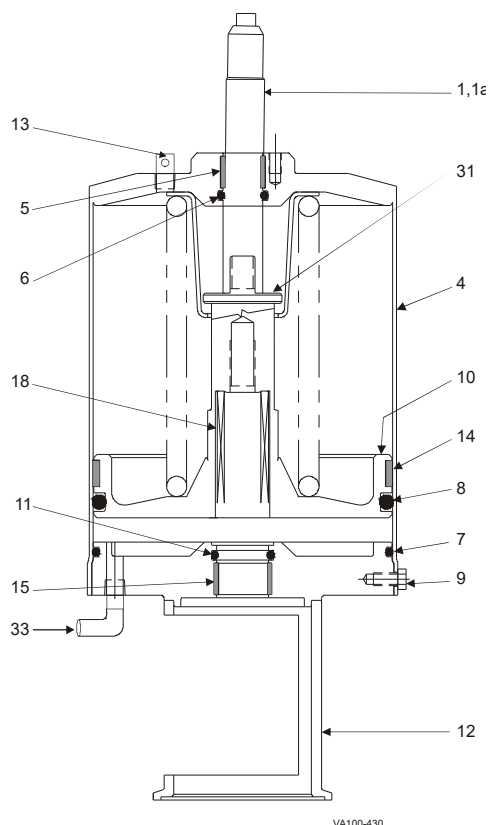
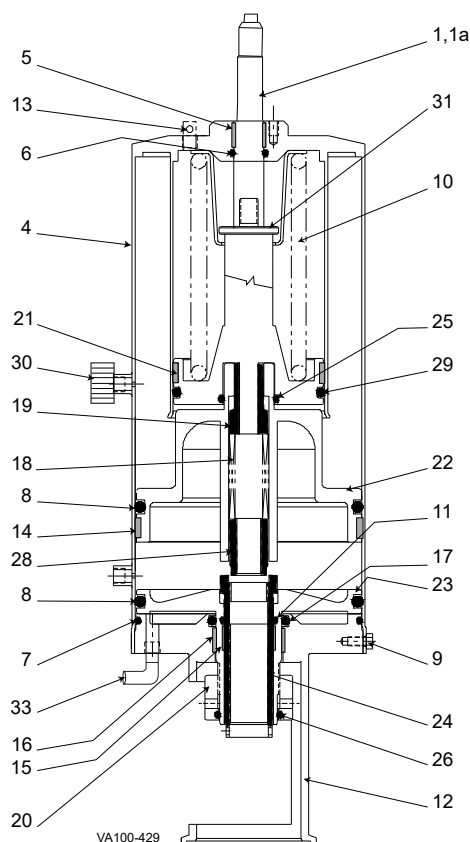

Figure 35 - W71/W73 Actuator Assembly (Non-Seat Lift Valve)
Figure 36 - W71/W73 Actuator Assembly (Seat Lift Valve)
1. For non-seat lifting valves, remove the cap screws (Figure 35, item 9) and remove the yoke (item 12) from the cylinder assembly. Set the yoke aside.
2. Pull the piston and spring assembly (Figure 35, item 10) from the cylinder assembly.
3. Inspect the four O-rings (Figure 35, items 6, 7, 8, and 11). Replace them if they are worn or damaged.
4. Inspect the three bearings (Figure 35, items 5, 14, and 15). If the bearing does not extend slightly above the edge of the metal surface, replace the bearing.
6. Assemble the stack components as shown in Figure 35. Install the yoke and cap screws.
1. For seat lifting valves, remove the cap screws (Figure 36, item 9) and remove the lower cartridge (yoke, item 12; adjusting nut, item 20; adjusting sleeve, item 24; and upper seat piston, item 23).
3. Remove the small spring (Figure 36, item 18). On W71/W73 valves, also remove the bushing (Figure 35, item 28).
4. Pull out the upper cartridge (main piston, item 22; lower seat spring and piston, item 10), by carefully threading in the lower stem to pull it. Do not bend the lower stem.
5. Inspect the nine O-rings (Figure 36, items 6, 7, 8, 11, 17, 25, 26, and 29) and replace them if they are worn or damaged.
6. Inspect the five bearings on W71/W73 (Figure 36, items 5, 14, 15, 16, and 21) or four bearings on W72RS actuators (items 5, 14, 15, and 16). If the bearing does not extend slightly above the edge of the metal surface, replace it.